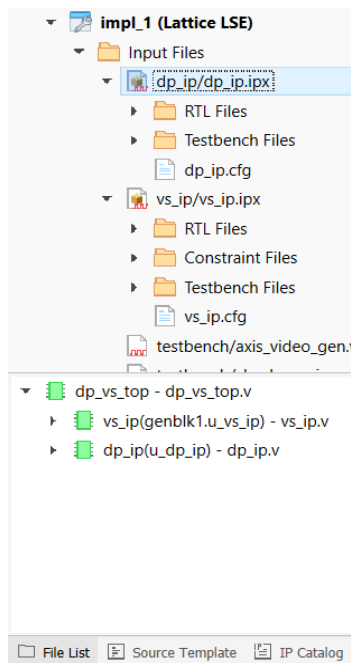

Figure 5.3. Opening dp_ip.ipx
- Double click on the **dp_ip.ipx** file to configure the DP IP as shown in Figure 5.3.